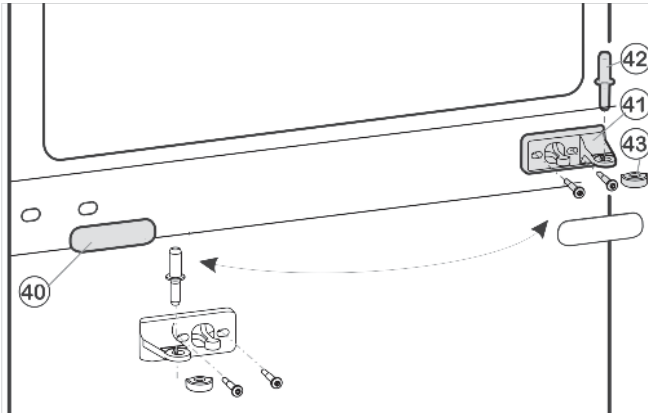
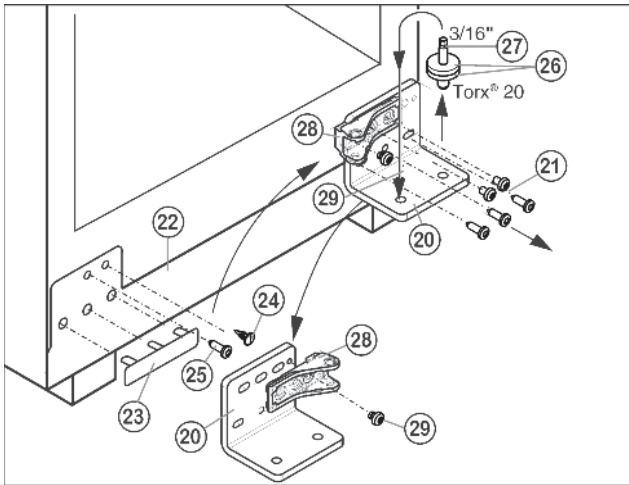

Fig. 18
Fig. 19
▶ Remove the center bearing pin *Fig. 18 (42)* from the bearing bracket and the lower door.
▶ Remove plastic cap *Fig. 18 (43)*.
- ▶ Carefully remove cover trim Fig. 18 (40).
- ▶ Turn the center bearing bracket Fig. 18 (41) with protective film 180°, move it to the other side and secure tightly on the new hinge side by **applying a screw torque of 3 lb-ft (4 Nm)**.
- ▶ Turn the cover trim Fig. 18 (40) 180° and snap it back into place on the new handle side.
- ▶ Unscrew bearing bracket Fig. 19 (20) together with bearing pin Fig. 19 (27). When doing so, hold panel Fig. 19 (22) steady so that it does not drop.
- ▶ Carefully lift off the cover on the handle side Fig. 19 (23) and the plug Fig. 19 (24) and move them to the opposite side.
- ▶ Unscrew screw Fig. 19 (25) and move it to the opposite side. When doing so, hold panel steady so that it does not drop.
- ▶ Unscrew bearing part Fig. 19 (28), turn it 180° and tighten Fig. 19 (29).
- ▶ Remove the bearing pin Fig. 19 (27), move it to the other side along with the bearing disc and bearing ring Fig. 19 (26) and secure **tightly to 3 lb-ft (4 Nm)**.
- ▶ Using a cordless screwdriver if necessary, tightly secure Fig. 19 (21) the bearing bracket Fig. 19 (20) on the new hinge side again by **applying a screw torque of 3 lb-ft (4 Nm)**. First fit the lower center screw, then the other screws.
- ▶ Position the door from above onto the lower bearing pin Fig. 19 (27).
- ▶ Place the plastic cap Fig. 18 (43) back onto the center bearing bracket Fig. 18 (41).
- ▶ Insert the center bearing pin Fig. 18 (42) on the new hinge side through the center bearing bracket Fig. 18 (41) into the lower door.
- ▶ Position the door from above onto the center bearing pin Fig. 18 (42).
- ▶ Unscrew center screw on lower bearing bracket *Fig. 19 (20)*.
- ▶ Align the doors flush with the appliance housing using the two oblong holes in the lower bearing bracket *Fig. 19 (20)* and center bearing bracket *Fig. 18 (41)* as a guide if needed.